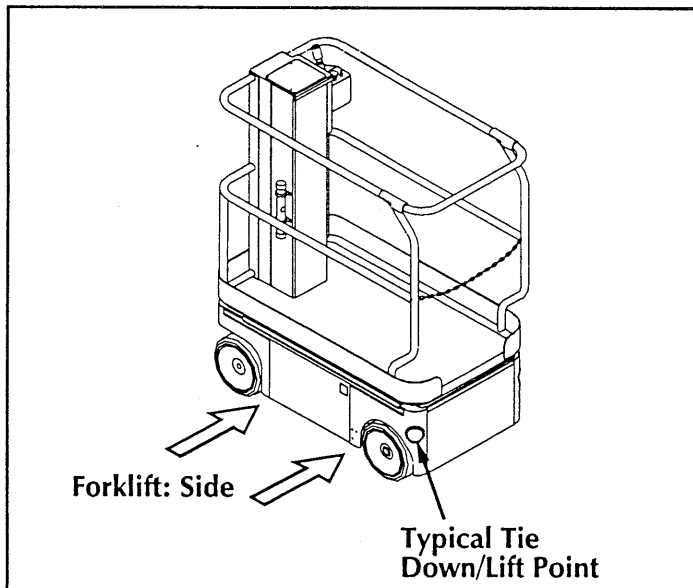

Figure 2-3: Transporting machine
Forklift from the side by lifting under the Chassis (Figure 2-3).
Secure straps to chassis tie down/lift points **only** (Figure 2-3).
2. Secure the work platform to the transport vehicle with chains or straps of adequate load capacity attached to the chassis tie down points (Figure 2-3).